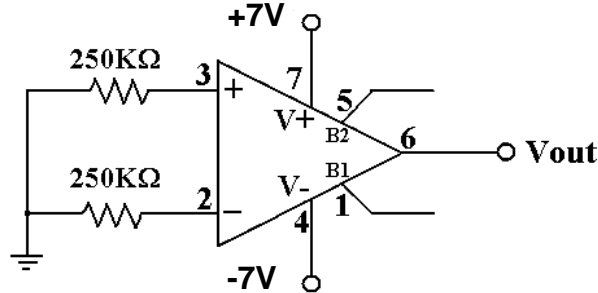

Fig. 4. Offset Current Measurement Configuration
1. Connect the circuit in Fig. 4 and use the dual power supply ± 7 V. Measure the resistor values accurately before you connect them. Measure the voltages across the two $250\text{ k}\Omega$ resistors. Connect the Opamp output to ground.